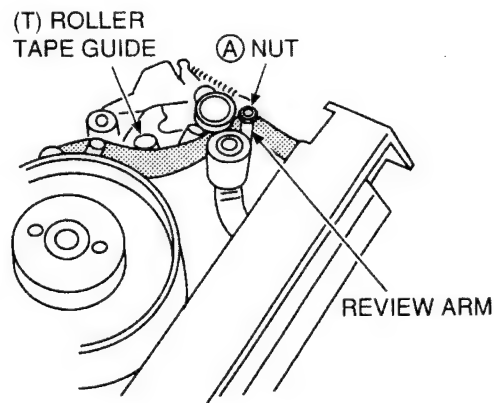

Fig. 4-2
3. Confirm that there is no curl or wrinkle between the (T) ROLLER TAPE GUIDE and REVIEW ARM TAPE GUIDE as shown in Fig. 4-2.